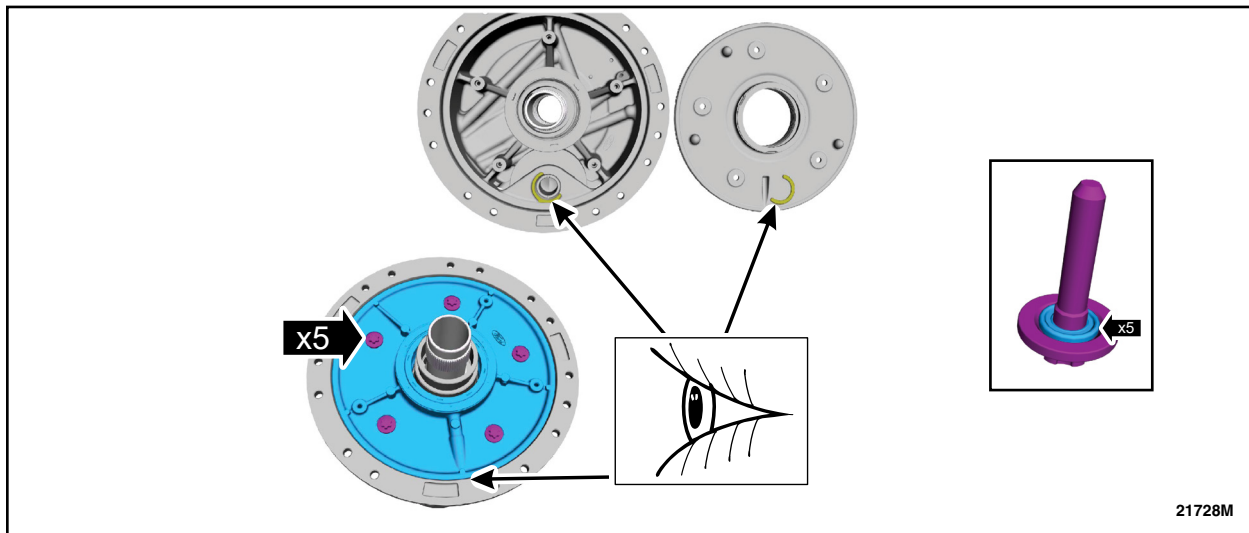

FIGURE 12
17. Install the bolts and hand tighten in a crisscross pattern to compress the seal. See Figure 12.